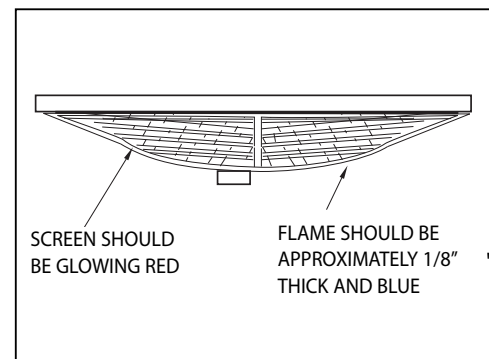

Fig. 06
- Broiler: The broiler flame should be approximately 1/8" thick and blue (Fig.06)s. This is set at the factory for correct performance.